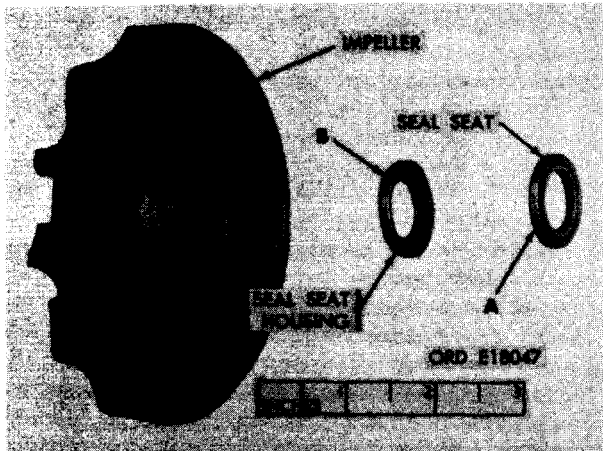

FIGURE 125. REMOVING OR INSTALLING WATER PUMP SEAL SEAT HOUSING AND SEAL SEAT.
- (9) Figure 125. (A) Remove water pump seal seat from impeller. (B) Remove water pump seal seat housing from water pump impeller.
- (2) Refer to figure 125 and reverse the sequence of instructions to install the seal seat and seal seat housing in impeller.